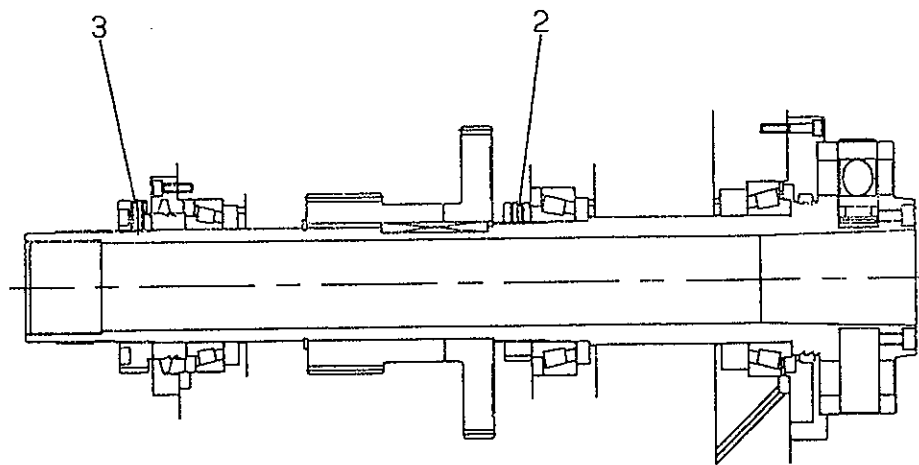

FIG 8(12-SPEED)
3. LOOSEN LOCKING BOLT IN "GEAR POSITIONING NUT" (#1 FIG 8)
5. TIGHTEN "BEARING ADJUSTMENT NUT" (#2 FIG 8) (ROTATE SPINDLE BY HAND TO CHECK FOR CORRECT ADJUSTMENT)
6. RETIGHTEN "GEAR POSITIONING NUT" (1) FULLY THEN LOOSEN (BACK OFF) $1/3$ TURN.
7. RETIGHTEN: LOCKING BOLT IN "GEAR POSITIONING NUT" (1) AND SET SCREW IN "BEARING ADJUSTMENT NUT" (2)
ADJUSTING TO SUITABLE POSITION, ROTATION EACH TEST RUNNING BY 1800 RPM AND 1125 RPM UNTIL SPINDLE KEEP IN BALANCE AND NO VIBRATION. (REFER TO FIG 8)